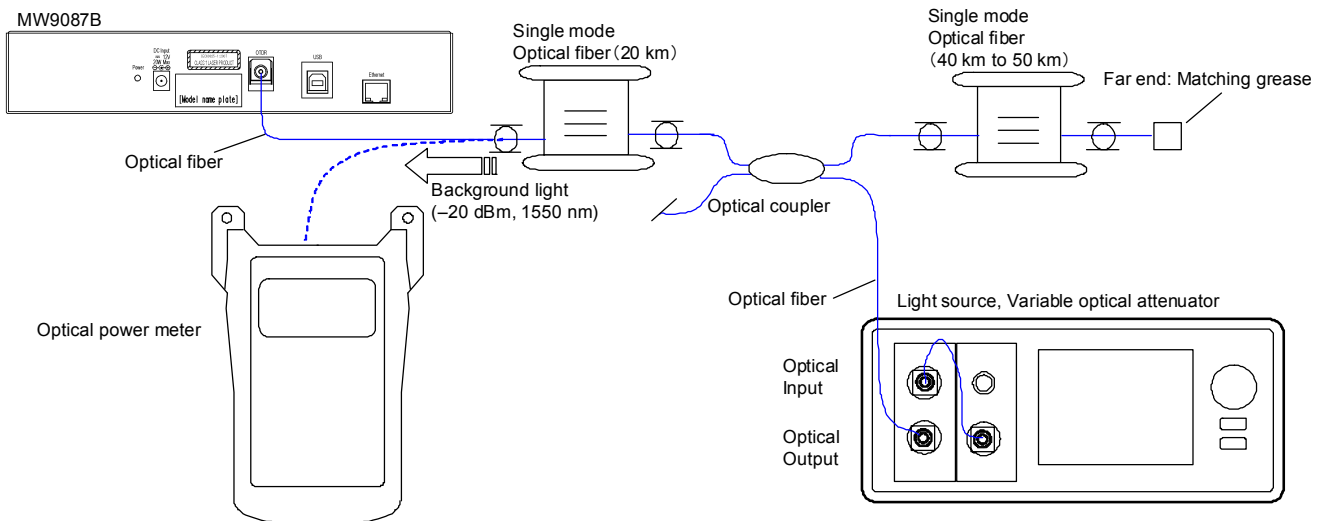

Figure 5.1.4-1 Dynamic Range Measurement Setup (MW9087B)
1. Connect the optical source, variable optical attenuator, Optical coupler, single mode optical fiber, and optical power as shown in Figure 5.1.4-1.